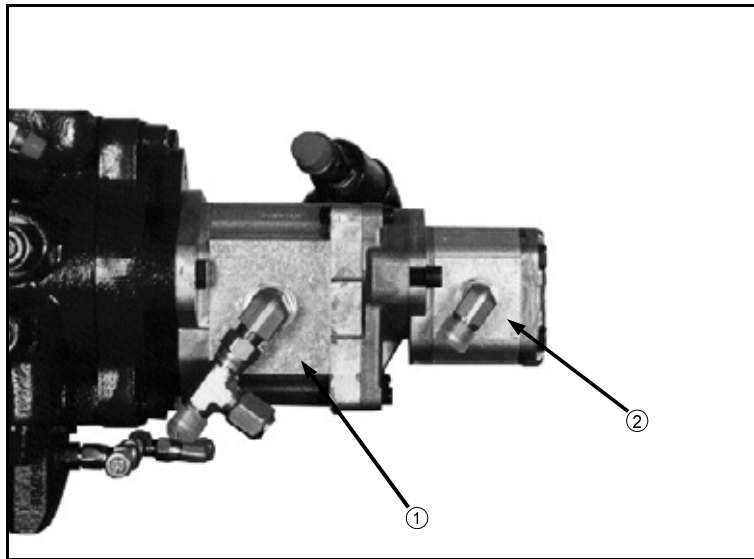

FIG 5.15
The front, larger gear pump (fig. 5.15, item 1) supplies only the hydraulic tread adjust cylinders and the solution pump. The rear, smaller gear pump (fig. 5.15, item 2) supplies power steering, boom controls, and mechanical agitation. Keeping these systems separate allows consistently even solution application if the operator activates any of the systems on the other pump.